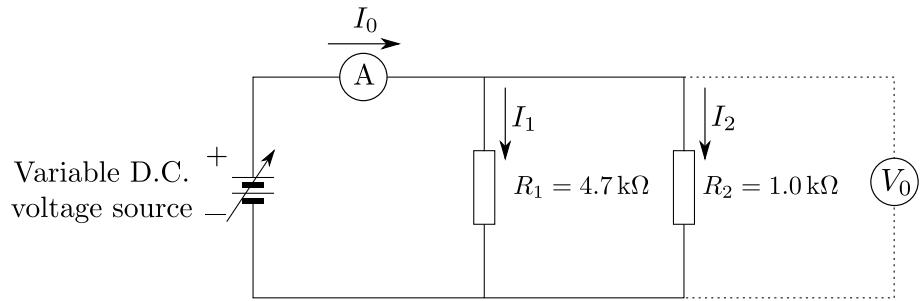

Figure 5: Resistors in parallel.
- Connect the circuit shown in Figure 5, where resistors R_1 and R_2 are connected in parallel. Use the variable DC voltage source.
Logbook 3.3 In Figure 5, $I_0 = I_1 + I_2$. Since part of the total current I_0 flows through R_1 and the rest flows through R_2 , which resistor carries the larger current? Use your measurements of I_0 , I_1 and I_2 to check that they are related as expected.